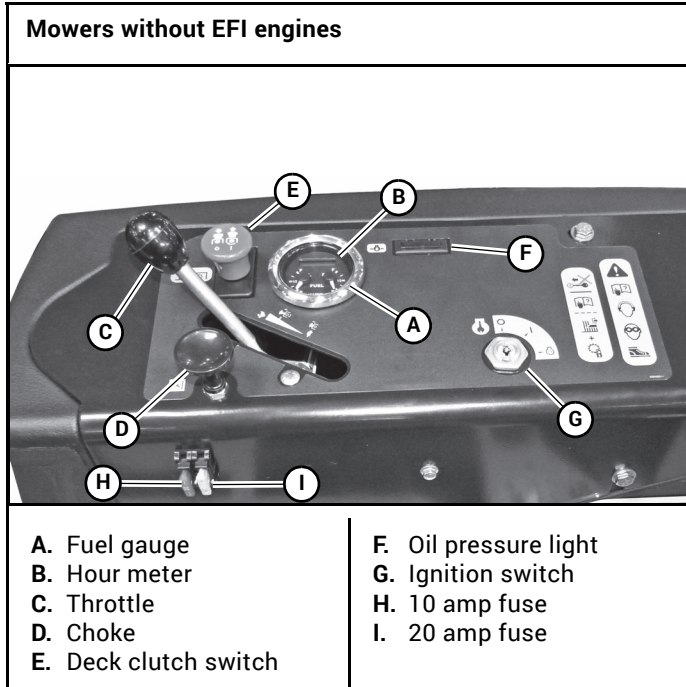
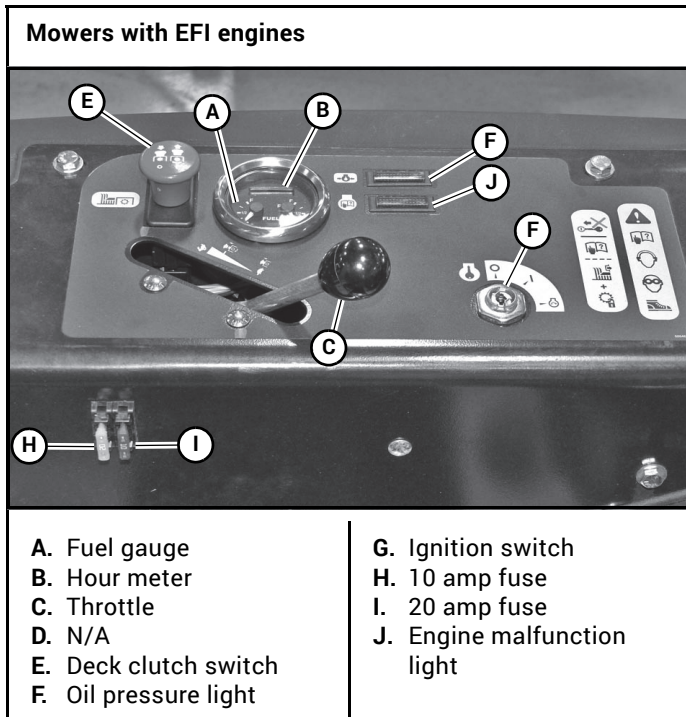
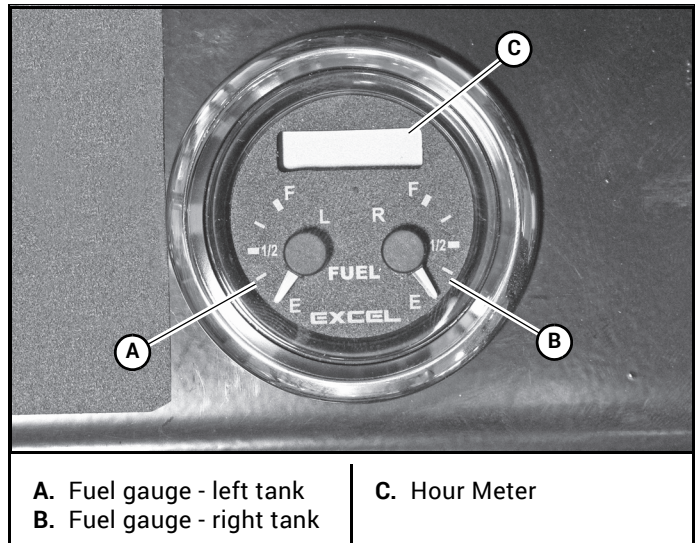

Figure 3-1
Figure 3-2
Figure 3-3
- A. **Fuel tank gauge (Figure 3-1, Figure 3-2 & Figure 3-3)** – this gauge shows the fuel level for each fuel tank. The right gauge indicates the fuel in the right tank and the left gauge indicates the fuel level in the left fuel tank.
- B. **Electronic hour meter (Figure 3-1, Figure 3-2 & Figure 3-3)** – registers 1/10 hour increments up to 9,999.9 total hours. It is connected to the ignition switch. It records the accumulative time while the ignition key is switched to the “RUN” position.
- C. **Throttle control (Figure 3-1 & Figure 3-2)** – a cable is linked to the engine throttle for controlling engine speed. Move the lever forward to increase engine rpm, move the lever rearward to decrease engine rpm.
- D. **Choke control (Figure 3-1)** – a cable is linked to manually operate the engine choke. When the lever is in the down position, the choke is in the “OFF” (run) position. When the knob is pulled up, the choke is in the “ON” (start) position. Do not operate the machine in the “ON” (start) position.
- E. **Deck clutch switch (Figure 3-1 & Figure 3-2)** – this switch engages the deck. Pull the switch up to engage and push switch down to disengage the clutch.
- F. **Oil pressure light (Figure 3-1 & Figure 3-2)** – this light comes on when the ignition switch is placed in the “RUN” position and stays lit until the engine is running and a safe oil pressure is developed. If the light comes on during operation, shut the engine off immediately and locate and correct the problem.
- G. **Ignition switch (Figure 3-1 & Figure 3-2)** – a three position switch: “OFF”, “RUN”, and “START”. With key inserted, rotate it clockwise to the “START” position;
- H. **10 amp fuse (Figure 3-1 & Figure 3-2)** – ignition system & safety system - 10 amp, blade-type.
- I. **20 amp fuse (Figure 3-1 & Figure 3-2)** – Controller - 20 amp, blade-type.
- J. **Engine malfunction light (Figure 3-2)** – this light comes on when there has been an engine malfunction on mowers with electronic fuel injected engines. Refer to the engine owner's manual for more details.